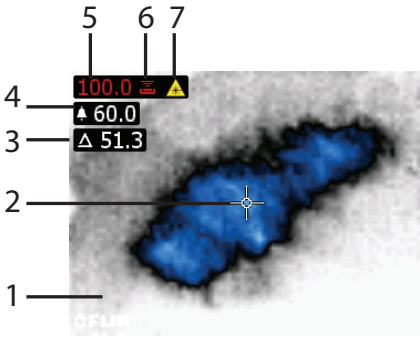
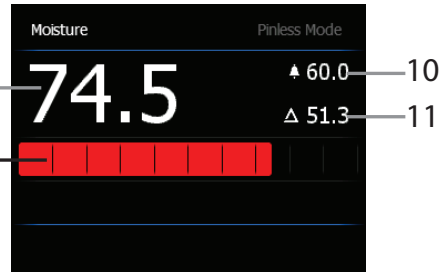

Fig. 5-1 IR + Moisture Image
Fig. 5-2 Moisture reading only
Moisture readings are shown on the display (digitally and with bar graph) in the Moisture-only mode or in small digits (upper left hand corner) in IR + Moisture mode. See Fig. 5-1 and Fig. 5-2. Pinless measurement readings are relative scaled (0~100) while pin-based readings are represented in %WME (percent wood moisture equivalent) 0~100%.
Most of the MR160 operations are represented in the icons and displays shown in Fig. 5-1 and Fig. 5-2 below. Other operations are covered in the context of each section of this User Guide.
3. The relative moisture reading is displayed on the main display in the upper left hand corner (IR + Moisture mode) or as bargraph with accompanying digits (Moisture-only mode). Refer to example screens shown in Fig. 5-1 and Fig. 5-2.
5. The moisture reading is displayed on the main display (in %WME) in the upper left hand corner (IR + Moisture mode) or as a bargraph with accompanying digits (Moisture-only mode). Refer to example screens shown in Fig. 5-1 and Fig. 5-2.
2. When the SET REFERENCE mode is selected a new display line will appear preceded by a delta (triangle) symbol. The digits next to the triangle symbol indicate the reference value (the measurement recorded when the SET REFERENCE mode is selected). Refer to example screens shown in Fig. 5-1 and Fig. 5-2.
4. The reference value is displayed on the main display in the upper left hand corner (IR + Moisture mode) or to the right of the bargraph (Moisture-only mode). Refer to example screens shown in Fig. 5-1 and Fig. 5-2.
6. When the High Alarm is set ON, the main display will show the alarm bell icon (shown above) and the High Alarm threshold value. Refer to example screens shown in Fig. 5-1 and Fig. 5-2.
7. When the measurement exceeds the threshold, the text for the actual measurement reading will appear red in color and will flash; the beeper will also sound. Note that in the Moisture-only mode, the bargraph turns red when the Alarm threshold is exceeded. Refer to the example screens in Fig. 5-1 and Fig. 5-2.